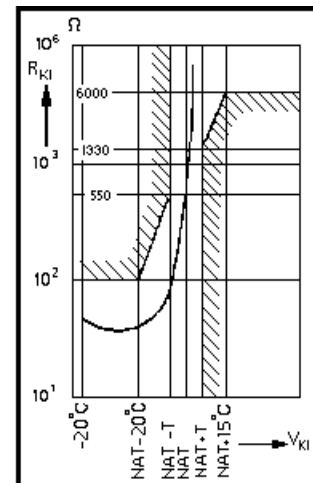

Fig. 9: Operation characteristics
The intermediate separator (Fig. 9) is mounted after the two first stages of the 2-stage oil-less compressor. The separator is designed to remove excess water which results from the cooling down after the compressing process and thus to provide the next stage with a cleaned medium. Separation is achieved by means of a baffle (4). A sintered metal filter (2) is provided additionally to remove dirt contamination.